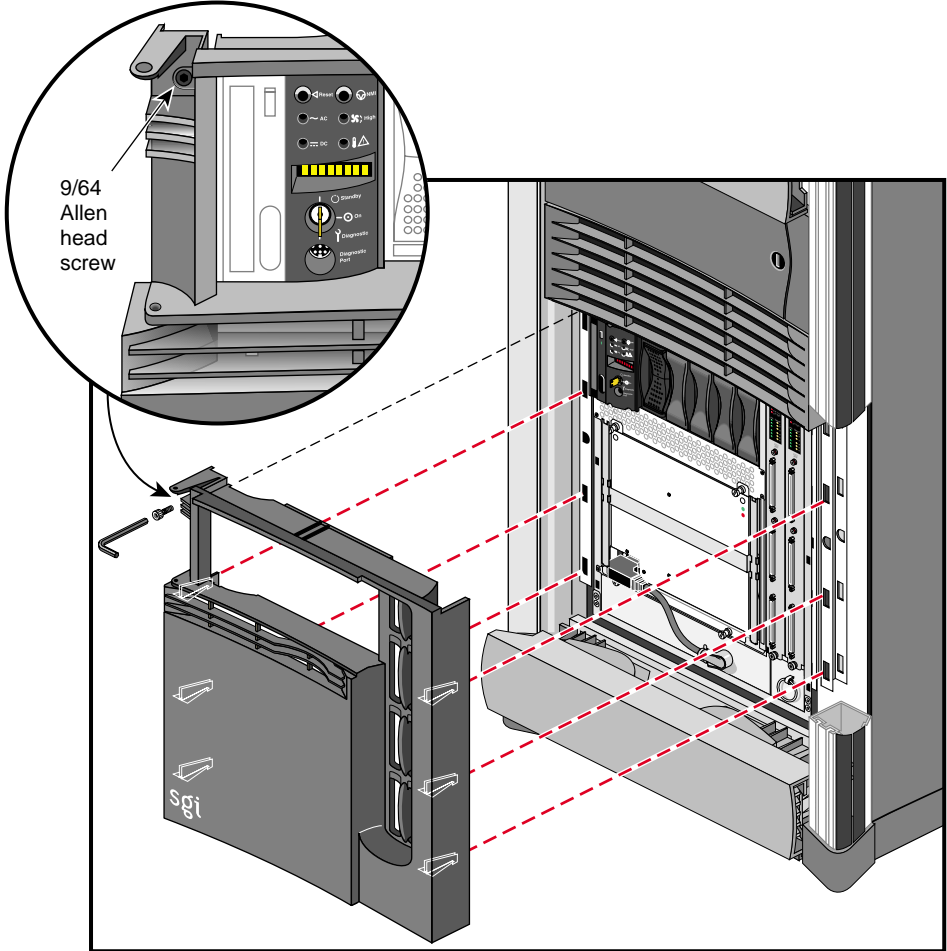
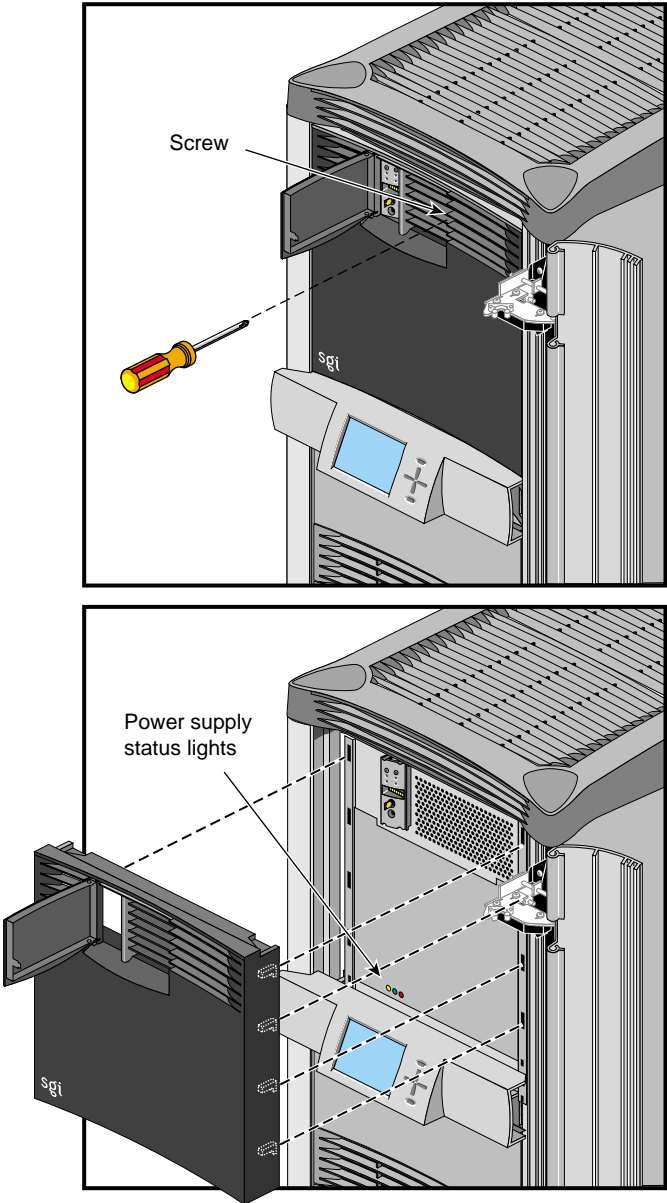

Figure 5-6 Removing the Compute Module's Facade
Figure 5-7 Removing a Graphics Module Facade
3. Remove the screw that secures the facade to the chassis (see Figure 5-6). Figure 5-7 shows the screw location on the graphics module.